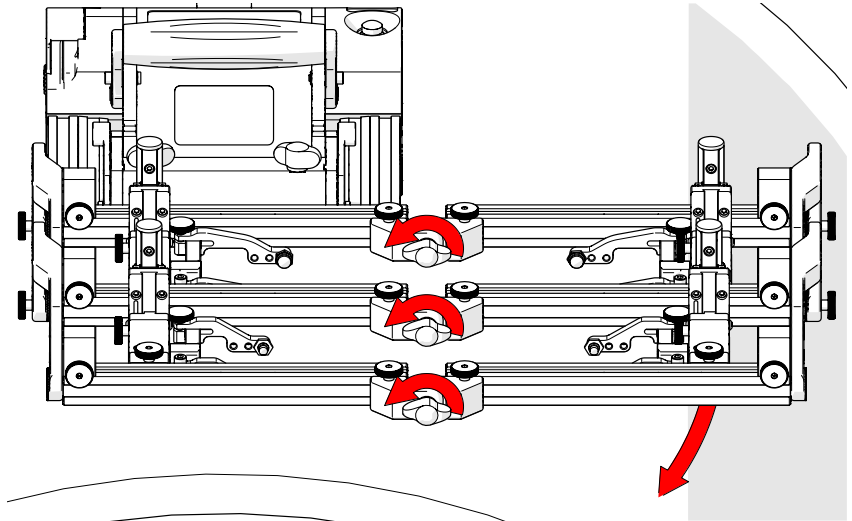

Fig. 168 - Loosen pivot wing knobs
1. Loosen the pivot wing knobs at the centre of the frame system (Fig. 168). Lower the left side of the frame system to align with the tangent of the scan surface. Tighten the pivot wing knobs.